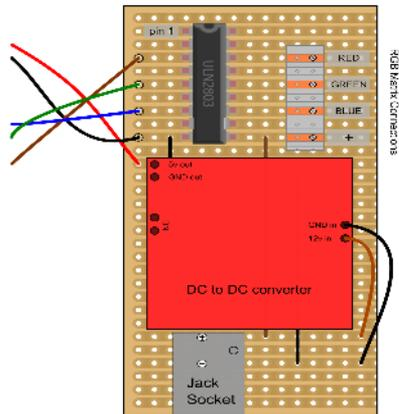

Figure 5-32. Board with jumper wires
8. Cut five female jumper wires, about 80mm long. Strip 5mm of the cut ends, then tin and solder them into place following Figure 5-32.